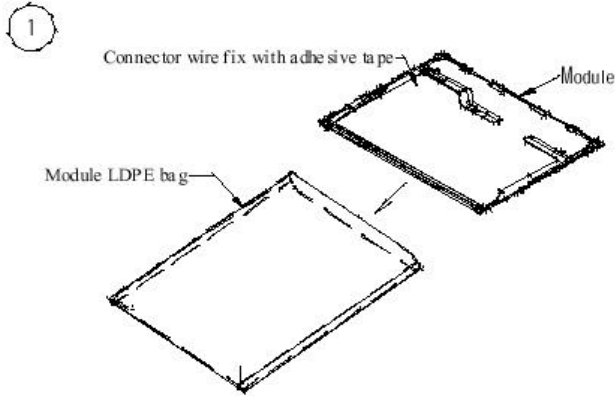

Fig.1
- (1).Module connector wire fixed with adhesive tape as Fig.1, then pack into module LDPE bag.